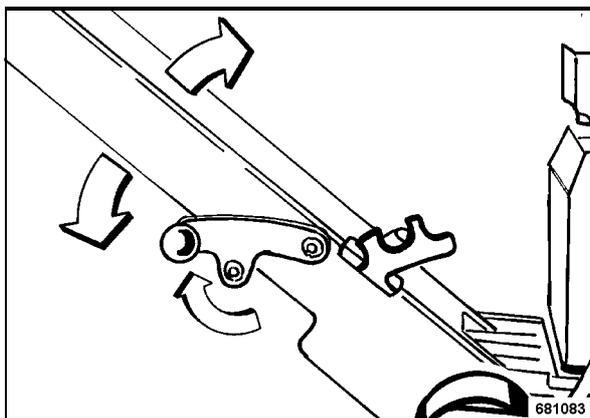

Fig. 39
- Pull the locking lever (Fig. 39) up and fold the steering rod down.